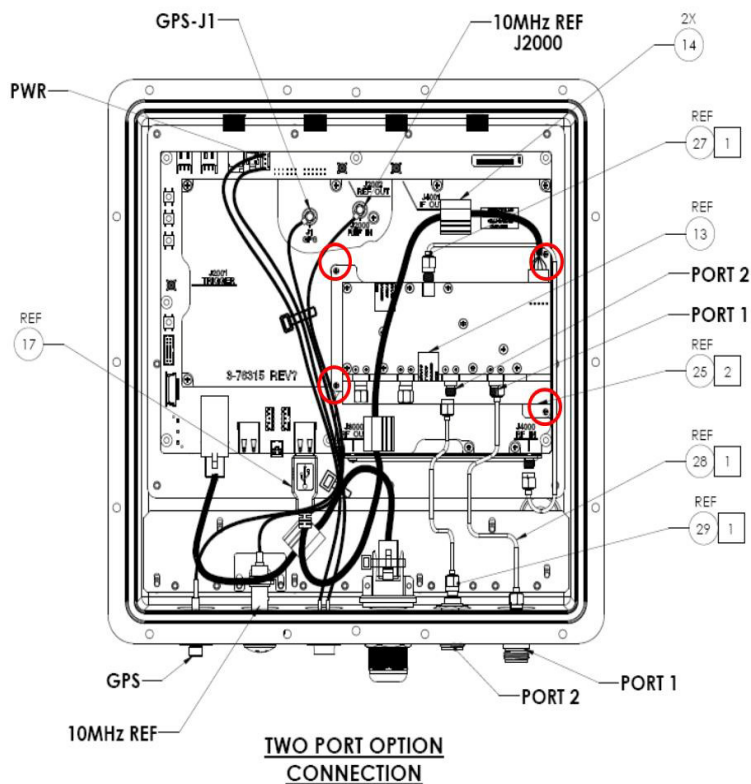

Figure 3-9. Removing the MUX PCB
2. Referring to Figure 3-9, disconnect the semi-rigid cable connecting the SPA PCB to the MUX PCB (REF 27).
3. Referring to Figure 3-9, disconnect the USB cable (REF 17) from the rear of MUX PCB. This is the 1 x 5 cable connector.
4. Referring to Figure 3-9, remove the 4 screws (circled in red) connecting the MUX PCB to the SPA PCB.